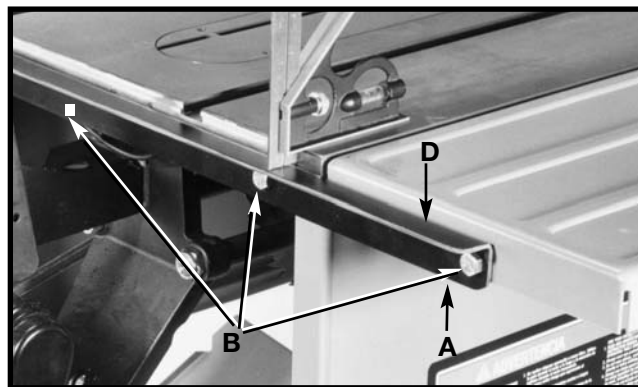

Fig. 41
Fasten the rear table support (A) Fig. 41, to the saw table. Insert a 3/8-16x1" hex head screw (B), through holes in rear support and table, place a 3/8 washer onto the screw and thread a 3/8-16 hex nut onto screw and tighten securely. Repeat this process for the remaining holes. When completely assembled, the flat edge (D) Fig. 41 of the rear table support will face upward.